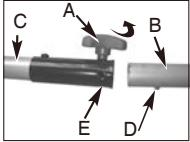

Fig. 2A
1. Drej knappen (A) mod uret for at løsne (Fig. 2A).